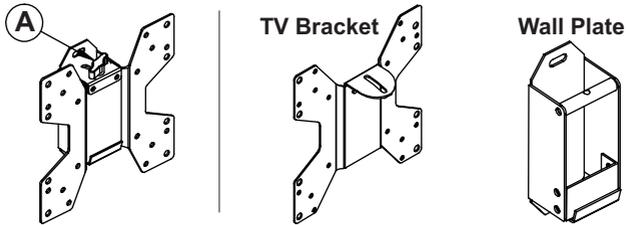

Figure 2 - Separate Wall Mount Parts
Twist to remove the T-screw handle (A) and separate the wall mount into two parts: Wall Plate and TV Bracket. See Figure 2.